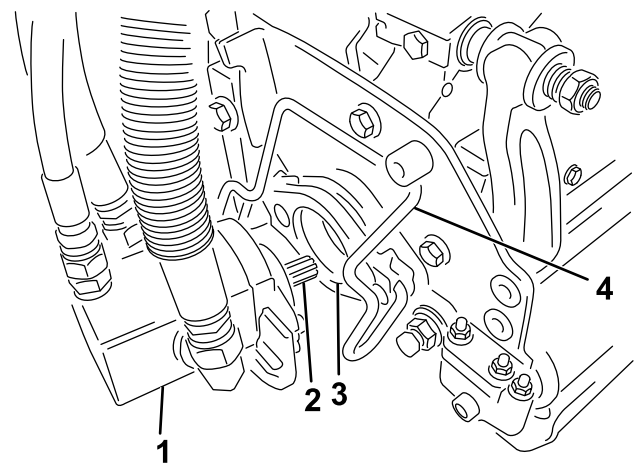

Figure 48
5. Coat the spline shaft of the cutting unit motor with clean grease (Figure 48).
6. Insert the motor into the left side of the cutting unit (as viewed from the operator's position) and pull the motor retaining bar on the cutting unit toward the motor until you hear a click from both sides of the motor (Figure 48).